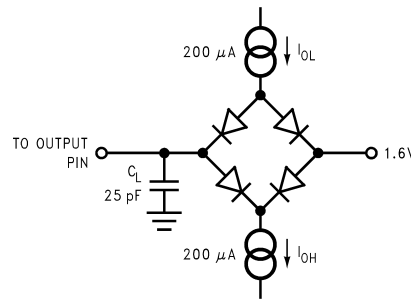

Figure 1. Timing Test Circuit
(1) All input signals are specified as $t_r = t_f = 5\text{ ns}$ (10% to 90% V_{DD}) and timed from 1.6 V.
(2) Minimum quiet time required between bus relinquish and start of next conversion.
(3) Measured with the load circuit (Figure 1), and defined as the time taken by the output to cross 1 V.
(4) Measured with the load circuit (Figure 1), and defined as the time taken by the output to cross 1 V or 2 V.
(5) t_8 is derived from the time taken by the outputs to change by 0.5 V with the loading circuit (Figure 1). The measured number is then adjusted to remove the effects of charging or discharging the 25-pF capacitor. This means t_8 is the true bus relinquish time, independent of the bus loading.